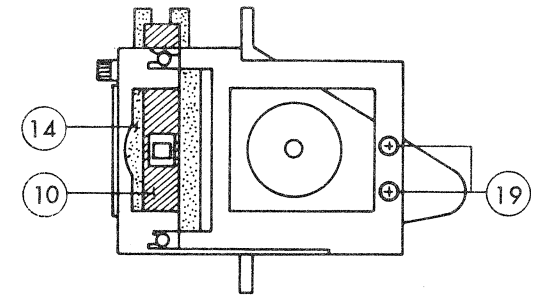

Fig.35
7. Adjust by means of 2 pieces of screws ⑨ so that the masks ⑩ and ⑭ are set in the positions shown in Fig. 35, and after installing them to the main body, set the machine to PROJECTION to confirm that the screen has no chipping or/and exposure.